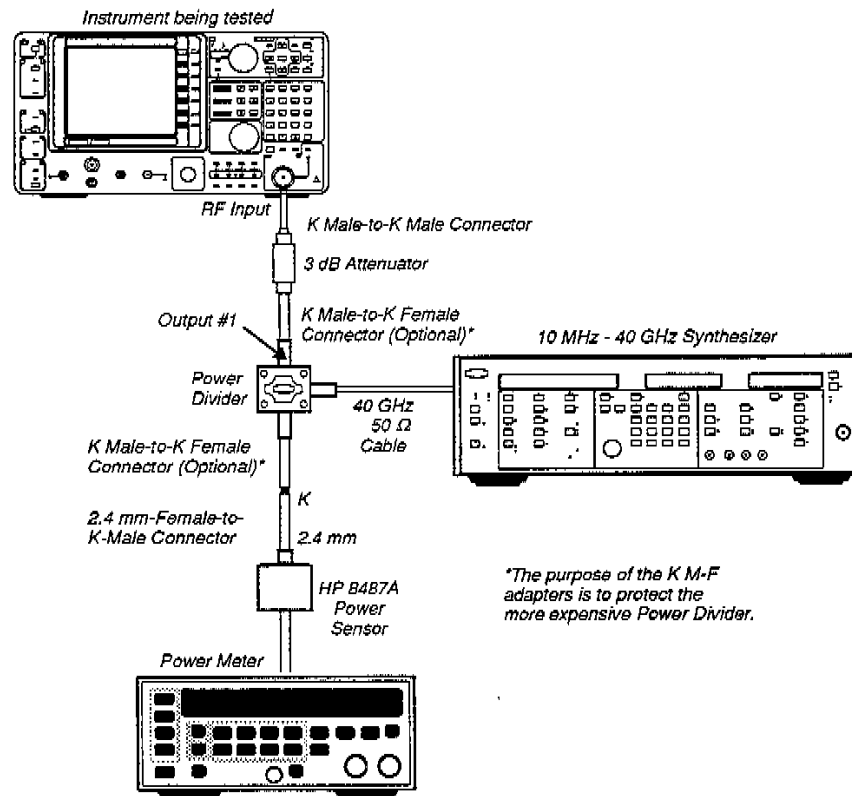

Figure 3-38. Flatness test setup – 50 MHz and above.
2. When prompted, connect the test setup as illustrated in Figure 3-38.
4. Next you are prompted to make the connections shown in Figure 3-38, but with the low frequency sensor. After the low frequency test is complete, you will be prompted to make the connections in Figure 3-38, with the HF sensor, to test the range above 10 MHz.
10. Next you are prompted to make the connections shown in Figure 3-38, but with the low frequency sensor. After the low frequency test is complete, you will be prompted to make the connections in Figure 3-38, with the HF sensor, to test the range above 10 MHz.